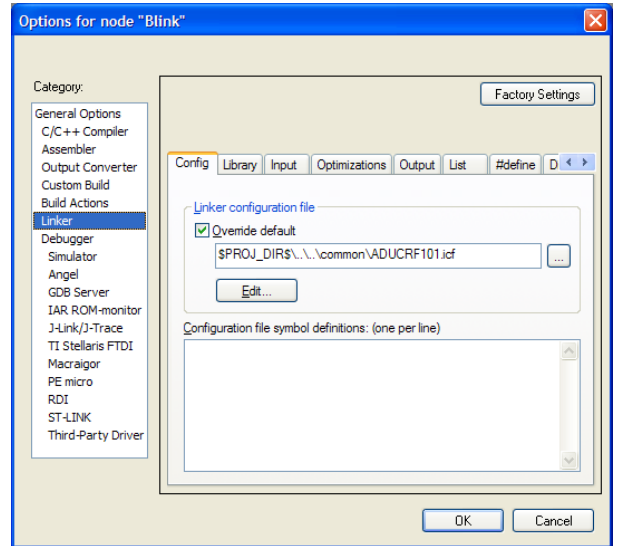

Figure 26. Overriding the Linker Configuration File
4. Click **Linker** in the **Category** box, and override the linker configuration file by selecting **Override default** in the **Linker configuration file** section of the **Config** tab as shown in Figure 26.